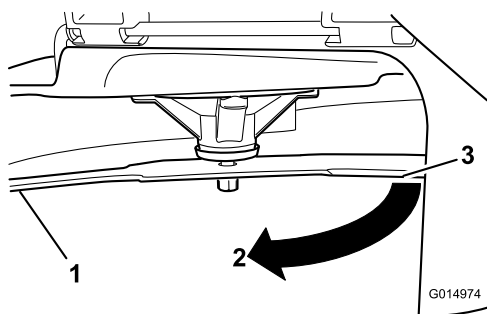

Figure 49
- Measured distance between blade and the surface (A)
- Rotate the same blade 180 degrees, so that the opposing cutting edge is now in the same position (Figure 49).